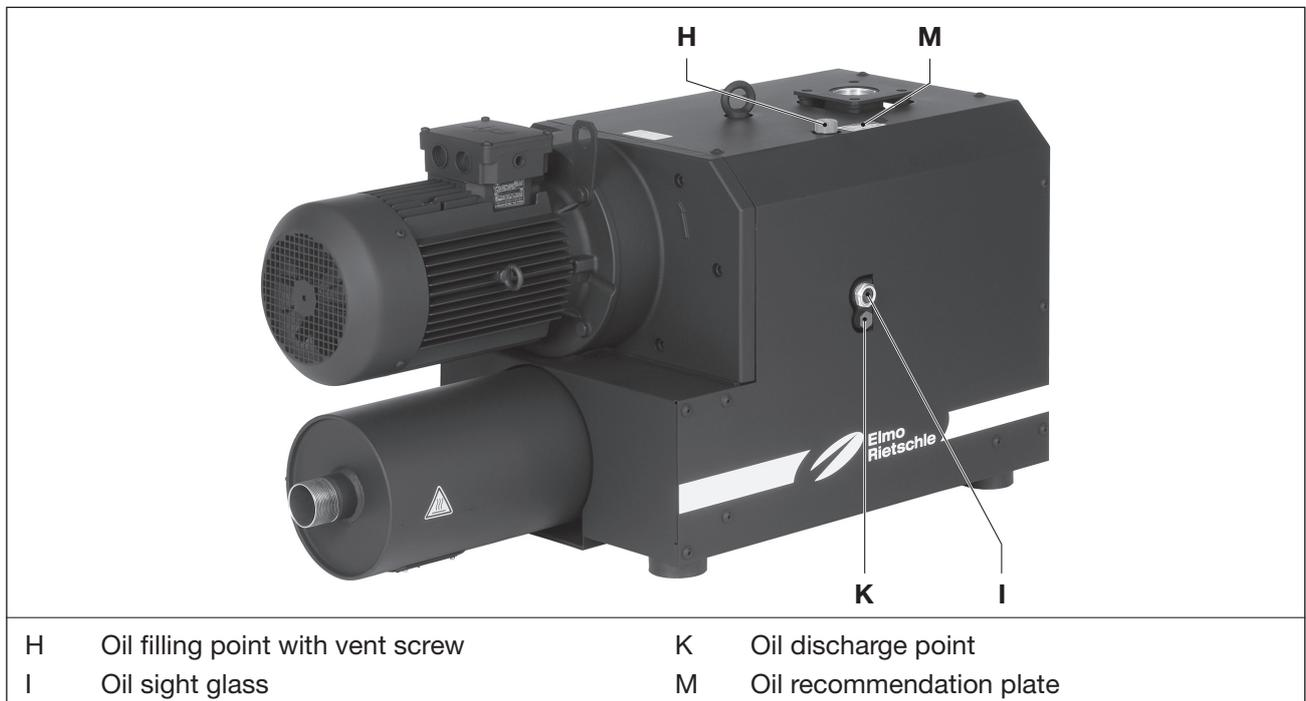

Fig. 5 Oil change
- Check the oil level in the sight glasses (Fig. 5/I) every month.
- Open the cap of the oil filling point (Fig. 5/H) and refill oil until it reaches the upper edge of the sight glass (Fig. 5/I).
We recommend Elmo Rietschle oils (also see Oil recommendation plate (Fig. 5/M)) as operating agent:
- Open the screw of the oil filling point (Fig. 5/H), open the oil discharge point (Fig. 5/K) and completely discharge the used oil.
- Close the oil discharge point (Fig. 5/K) and fill in new oil through the oil filling point (Fig. 5/H).
Check the oil level in the sight glasses (Fig. 5/I).
- Close the screw in the oil filling point (Fig. 5/H).